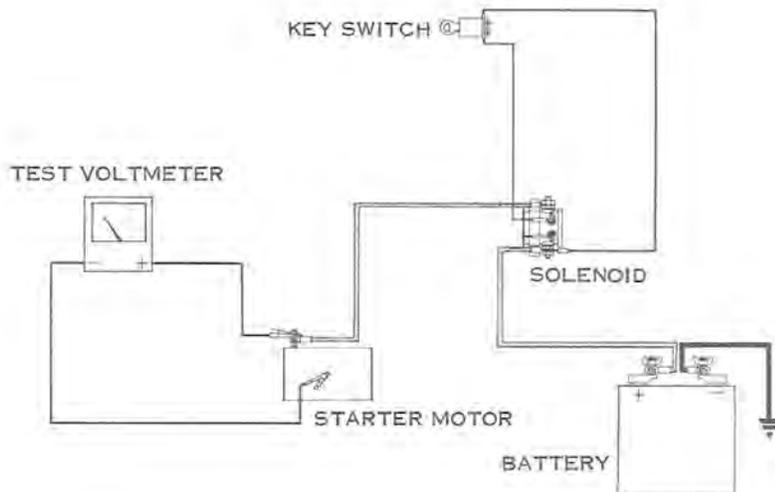

Figure 6-33
- c. Connect a voltmeter across starter motor (see Figure 6-33), with positive (+) lead to starter motor terminal, and negative (-) lead to ground on starter frame.